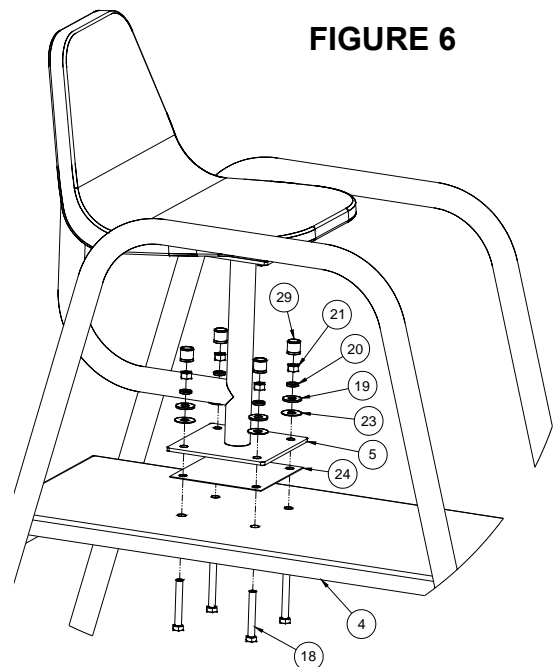

FIGURE 7
10. Place **Footboard (item 4)** onto top of **Footboard Support Assembly (item 2)**. Place **Gasket (item 24)** onto Footboard and place PLS-204 Lifeguard Chair Assembly on top of Gasket orienting Umbrella holder towards rear of Lifeguard Chair.
11. Align holes and place four (4) **½" Hex Head Cap Screws (item 18)** through Footboard Support Assembly, Footboard, Gasket and Lifeguard Chair Assembly. Place **½" Plastic Washer (item 23)**, **½" Flat Washer (item 19)**, **½" Lock Washer (item 20)** and **½" Hex nut (item 21)** over Hex Head Cap Screws and tighten Hex Nuts as shown in **FIGURE 7**. Place **½" Plastic Nut Cap (item 29)** over Hex Nuts four (4) places.